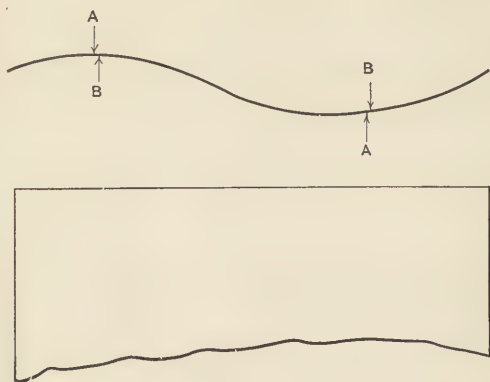

Fig. 7.
**To Straighten Thin Sheet Steel** after it has been warped by heating and working, some smiths heat it quite hot and put a heavy weight on it, expecting that when the piece is cold it will be flat and true. But not so. The hump will be there just the same. Fig. 7 represents a piece of thin steel that has become bent or warped. Now if you heat the piece and hammer it on the high side *A*, you will make it worse. That side of the metal is longest already and hammering expands it still more. But by striking a few slight blows around the concave side, *B*, and expanding it, you will find it will come back straight. This must be done cold.